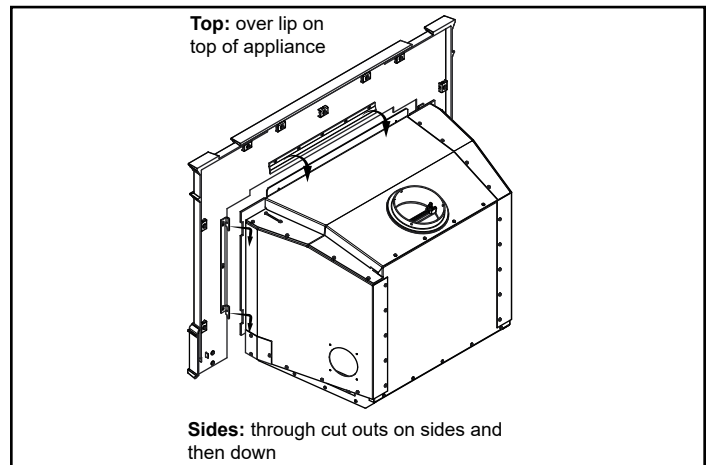

Figure 5.19
10. Slide surround and trim over the top of the insert into place matching the mounting tabs on the metal sides with the slots on the insert (Figure 5.19).
11. Align the 2 screws in the top metal surround piece to the 2 alignment holes on the appliance top. Secure in place (Figure 5.19).